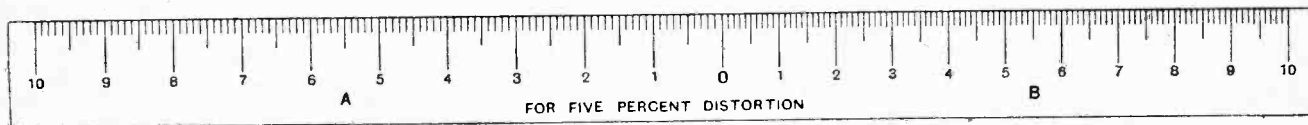
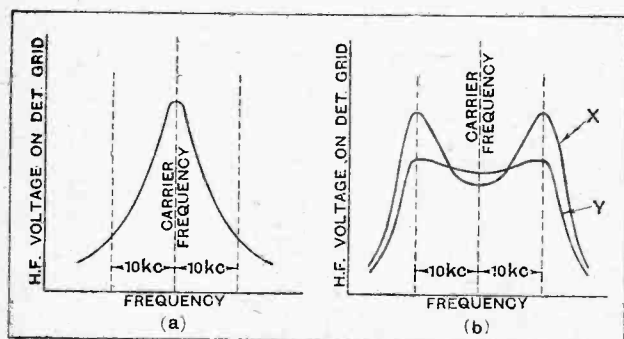

Fig. 2.—The 5 per cent. second harmonic distortion scale. The divisions on the left of zero are 11 9ths those on the right.
Fig. 1.—Resonance curve of conventional single circuit (a) compared with outputs obtainable from filter circuits.
The graphical method of arriving at power output is probably the most accurate; it is, however, rather too laborious when 85 valves have to be examined! Typical valves of different classes have been checked by this method, and have been found to give sensibly the same figures as those derived from expression (b) in the appendix which has been used for column D. The graphical method which it is hoped will become standard is clearly described by K. S. Weaver in the November, 1929 issue of *QST*. The anode current-anode volts curves at a number of fixed grid voltages differing by equal increments are plotted as in Fig. 1. A scale is then made as in Fig. 2, such that each division on the left of 0 is  $\frac{1}{10}$ th that of each division on the right. The point of maximum anode current and voltage gives the operating point O on one of the grid voltage curves, and it now remains to pivot the zero of the scale on the operating point to obtain the best angle (load line or optimum loud speaker impedance) at which the scale gives the same reading on either side of zero where two
grid voltage curves are cut. Each of these curves must represent equal voltages either side of the operating grid voltage. For example, in Fig. 1 when the zero on the scale is pivoted at the operating point O on the grid voltage of 80, 10 on the left of zero will cut  $E_g=0$ , while 10 on the right cuts  $E_g=160$  if the scale is held at the angle shown. In fact, A in Fig. 1 will be  $\frac{1}{10}$ th of B.
It will be noted that the distance between  $E_g=160$  and  $E_g=140$  is less than that between  $E_g=0$  and  $E_g=20$ , and as the anode voltage swings up and down the load line, second harmonic distortion will take place. It is generally agreed that 5 per cent. second harmonic is the maximum unobjectionable distortion permissible. The scale in Fig. 2 obtains the necessary load line for this condition, and if the dotted sides of the triangle shown in Fig. 1 are multiplied together as volts  $\times$  amps. and divided by 8 the resultant figure is the A.C. power output in watts for 5 per cent. second harmonic distortion. Expression (b) in the appendix which is due to B. C. Brain2 arrives at the same result from purely mathematical considerations. The mutilating effect on a pure sine wave by superimposing a second harmonic3
Without retracing our footsteps over ground that has already been covered, the reader may be reminded that the kind of tuning we are now trying to avoid is that represented diagrammatically in Fig. 1 (a), which shows
As coupling between the circuits is made closer, there is a tendency for the composite circuit to give a maximum response to two different frequencies, and it is this property that is so valuable as an aid to obtaining real selectivity combined with good quality. Tuning curves of the kind provided by this arrangement are shown in Fig. 1 (b). The first (X) is what may be expected of low-loss circuits. It is not ideal, as a little consideration will show that, assuming a perfect detector and amplifier to be operated from the voltages developed, there would be over-emphasis of the higher audible frequencies. In actual practice, this might well be unobjectionable, if only because it is hard to avoid some high-note loss in the amplifier, but, to be on the safe side, it is well to aim at something more like curve Y, which is afforded by circuits of average "goodness," used without any abnormal precautions to avoid incidental losses.
The advantages of what is sensibly a flat-topped resonance curve can be realised by careful operation of the circuit given in Fig. 2, which represents an anode bend detector, transformer-coupled to an output valve. This
Fig. 2.—A simple local-station receiver for testing the effect of "double-humped" tuning. The anode bend detector valve should have a reasonably low impedance and an L.F. transformer with a large primary inductance should be used.
The secondary inductance  $L_1$  may consist of about 56 turns of No. 24 D.C.C. wire on a 3in. former. Its coupling coil  $L_2$  may have some 8 turns of finer wire wound on a sleeve which is an easy sliding fit on the main former, so that its distance from  $L_2$  (and consequently the coupling) may be readily adjusted. A sectional sketch of these windings is given in Fig. 3; connections are indicated by lettering corresponding with Fig. 2. A more convenient form of coupling (from the mechanical point of view)